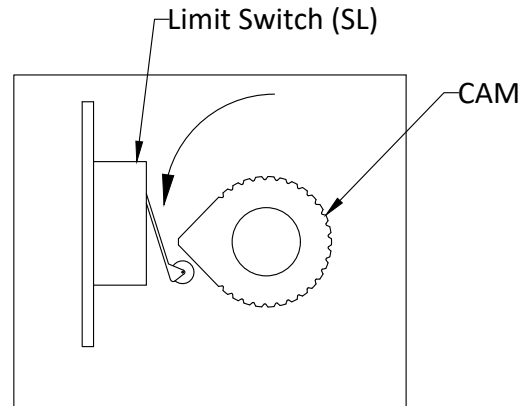

Fig. 5
5. At this position adjust the lower cam (in the CCW direction as shown in Fig. 5) such that Lower switch SL clicks.